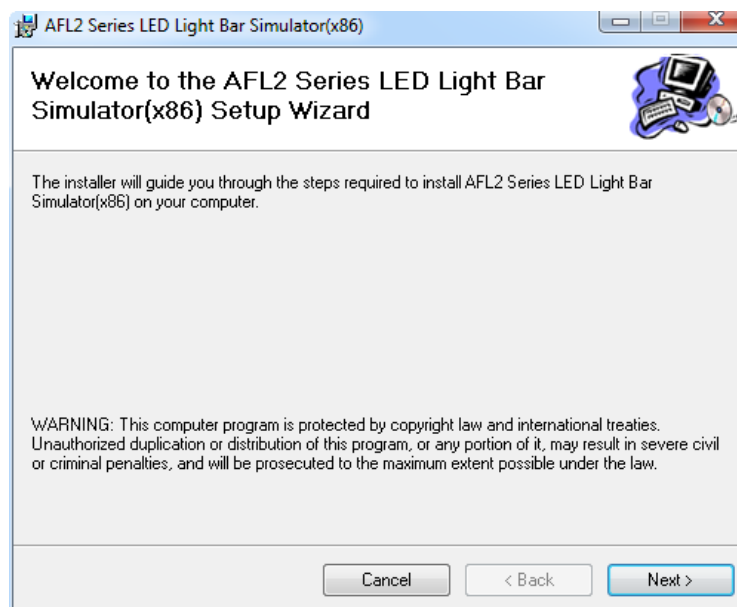

Figure 2-1: The Setup Wizard Starts
Step 3: The **Setup Wizard** starts (**Figure 2-1**).